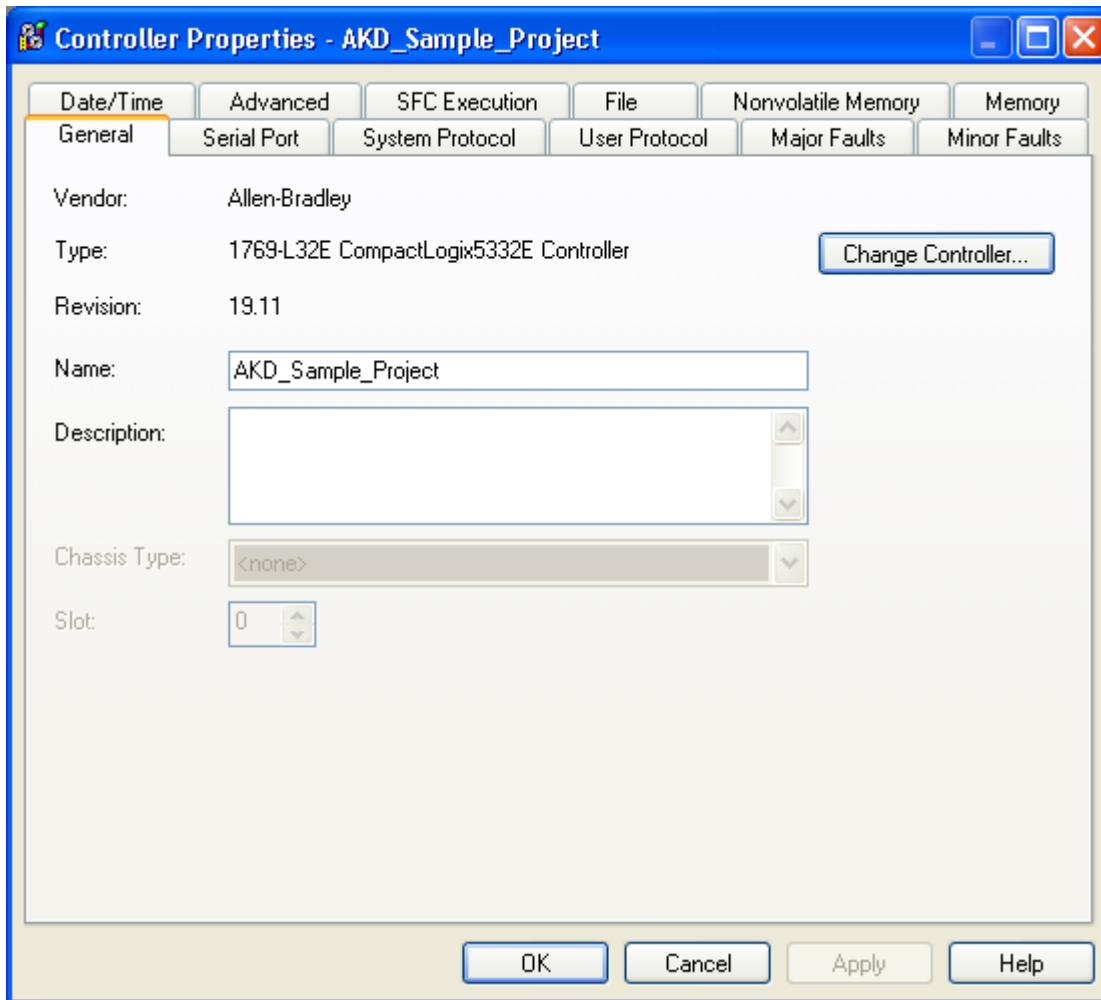

Figure 4-2: Controller Properties
3. Update any controller properties in order for the controller to match your specific hardware setup, most notably any communication settings and/or the controller type, and then close the controller properties window (Figure 4-2: Controller Properties).